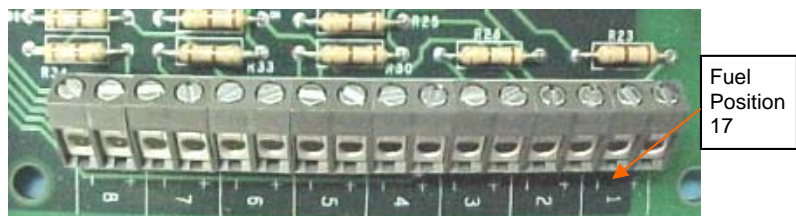

Figure 4
3. Connect dispenser data wires starting on the number 1 Fuel Position in the expansion box. This will be Fuel Position 17. See Figure 4.